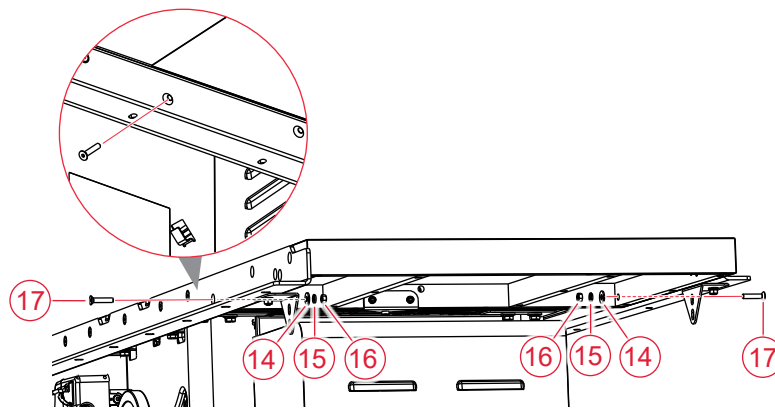

Fig. 12
**Extension Table, 36 Inch Fence System:** The extension table mounts to rails with bolts that pass through holes in the rails and extension table. Insert an M8 x 40 countersunk socket head bolt (17) through the holes in both the front and rear rails, closest to the wing (Fig. 12).